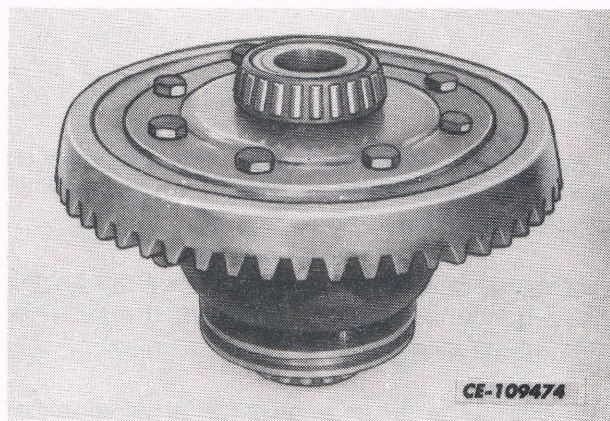

Fig. 18
10. Remove the planetary drive shaft and press the larger tapered roller bearing on the ring gear hub until it bottoms on the shoulder of the hub. See Fig. 18.